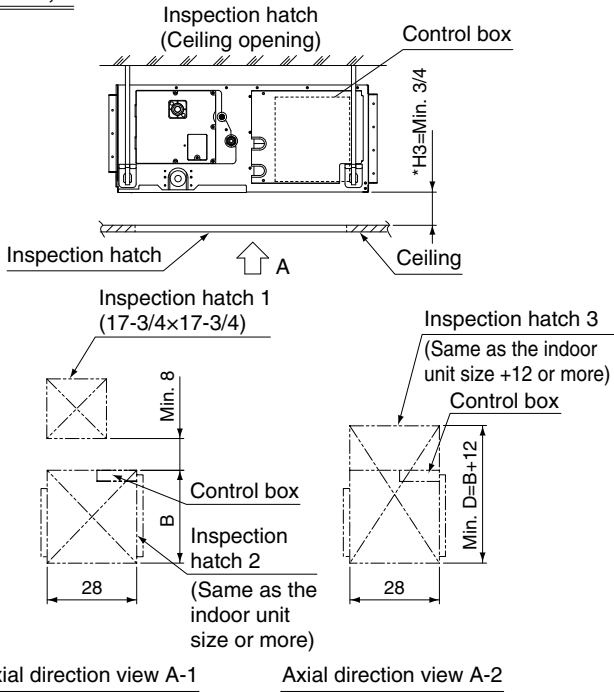

Fig. 2-3
2. Inspection hatch 1 (17-3/4 × 17-3/4) for the control box and inspection hatch 2 for the lower part of the product (see axial direction view A-1). **(Refer to Fig. 2-3)**
3. Inspection hatch 3 for the lower part of the product and the lower part of the control box (see axial direction view A-2). **(Refer to Fig. 2-3)**